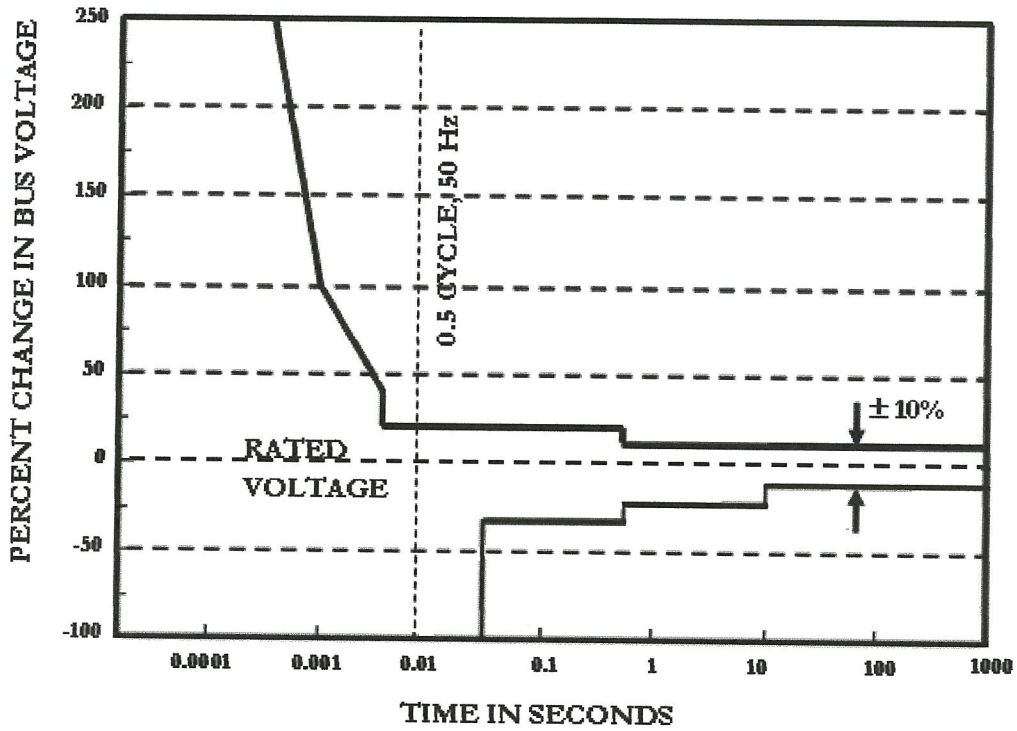

Figure Q1(a)
**THIS QUESTION PAPER CONSISTS OF SEVEN (7) PAGES**
- Q1** (a) Mark and write names of **four (4)** regions of operation of the ITIC curve shown in **Figure Q1(a)**.
- (i) Argue, whether a device that is compliant with the ITIC curve shown in **Figure Q1(a)** tolerate these voltage deviations.
- (ii) By referring to the ITIC curve as shown in **Figure Q1(a)**, deduce the impact if the duration of the voltage swings lasts for 9 seconds.